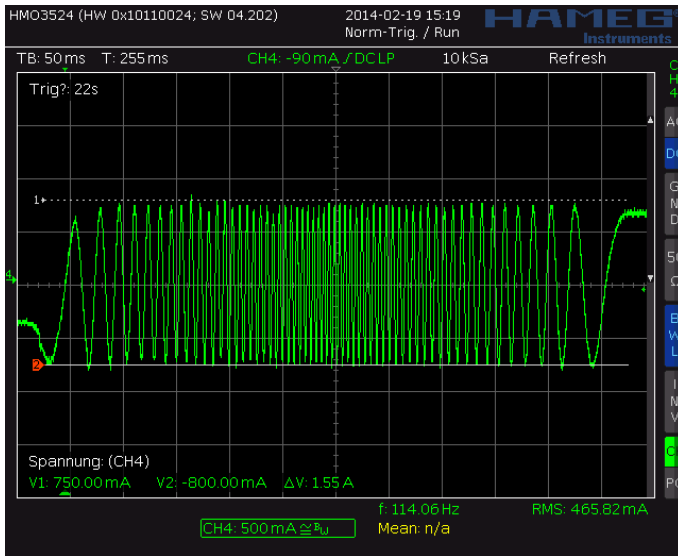
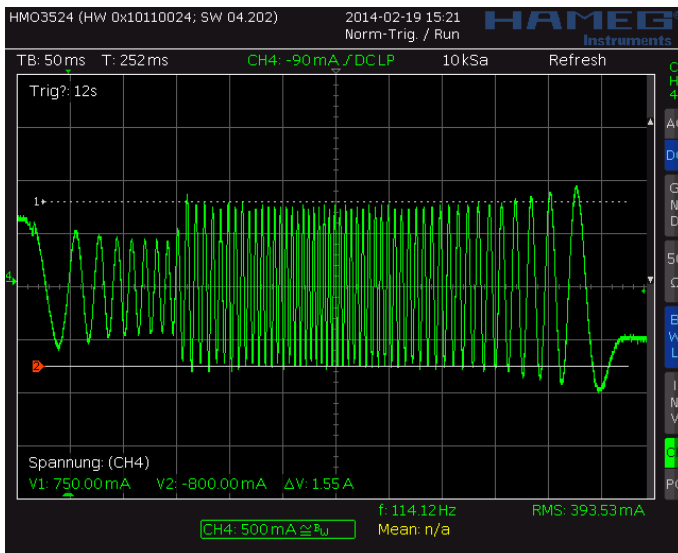
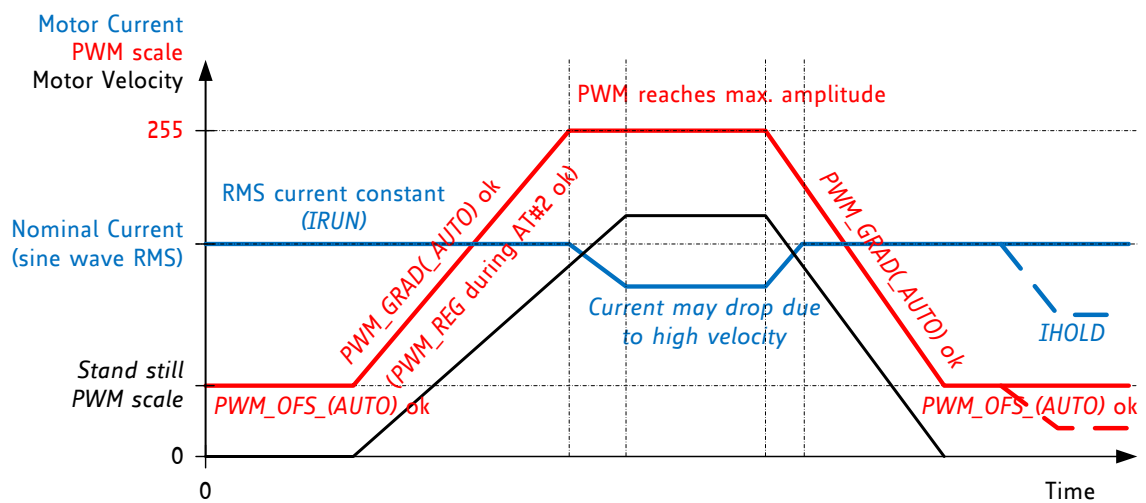

Figure 6.3 Scope shot: good setting for PWM\_REG
Figure 6.4 Scope shot: too small setting for PWM\_REG during AT#2
Figure 6.5 Successfully determined PWM\_GRAD(AUTO) and PWM\_OFs(AUTO)
In StealthChop voltage PWM mode, the autoscaling function ( $pwm\_autoscale = 1$ ,  $pwm\_auto\_grad = 1$ ) regulates the motor current to the desired current setting. Automatic scaling is used as part of the automatic tuning process (AT), and for subsequent tracking of changes within the motor parameters. The driver measures the motor current during the chopper on time and uses a proportional regulator to regulate  $PWM\_SCALE\_AUTO$  in order match the motor current to the target current.  $PWM\_REG$  is the proportionality coefficient for this regulator. Basically, the proportionality coefficient should be as small as possible in order to get a stable and soft regulation behavior, but it must be large enough to allow the driver to quickly react to changes caused by variation of the motor target current (e.g. change of VREF). During initial tuning step AT#2,  $PWM\_REG$  also compensates for the change of motor velocity. Therefore, a high acceleration during AT#2 will require a higher setting of  $PWM\_REG$ . With careful selection of homing velocity and acceleration, a minimum setting of the regulation gradient often is sufficient ( $PWM\_REG=1$ ).  $PWM\_REG$  setting should be optimized for the fastest required acceleration and deceleration ramp (compare Figure 6.3 and Figure 6.4). The quality of the setting  $PWM\_REG$  in phase AT#2 and the finished automatic tuning procedure (or non-automatic settings for  $PWM\_OFS$  and  $PWM\_GRAD$ ) can be examined when monitoring motor current during an acceleration phase Figure 6.5.